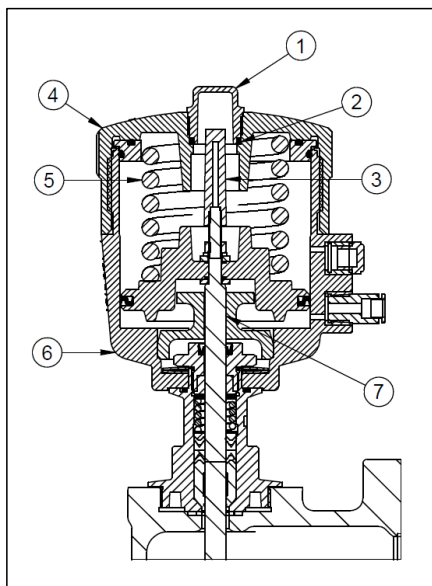

Fig. 7.8
- 1) Rotate the actuator cap (4) (refer fig 7.8) counterclockwise using the appropriate tools as specified in the torque table to detach it from the actuator
- housing (6). If rotation is not possible, then hold the actuator housing (6) from bottom side with appropriate tool and then rotate the actuator cap (4).
- 2) Replace the actuator spring (5) with new spring.
- 4) Apply molykote 33 light grease and assemble the actuator cap (4).